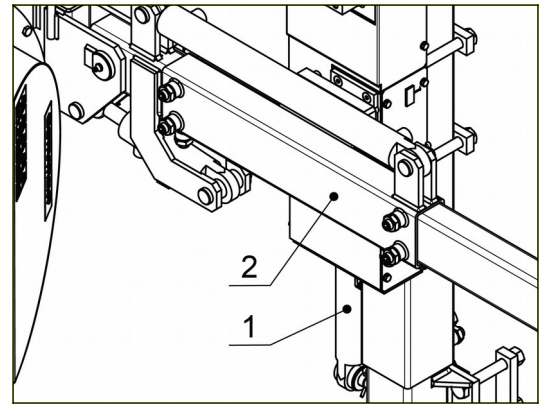

Fig. 21
2. Use the control unit to set the desired working height by the hydraulic cylinder (Fig. 21, No. 1).